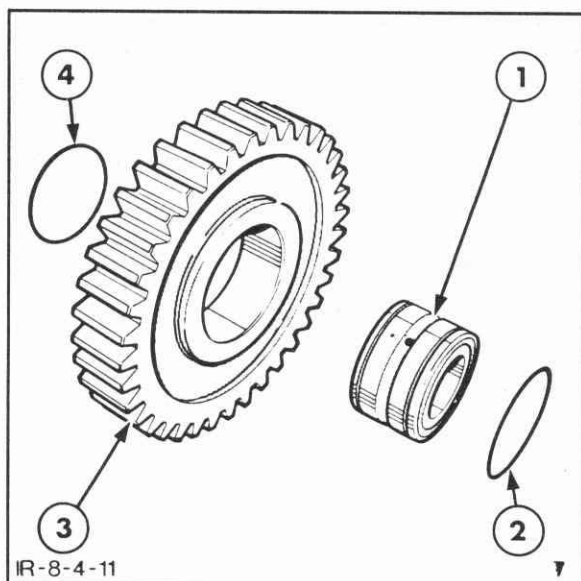

Figure 7-149
17. Remove the retaining ring from the idler gear and bearing assembly and separate the components, Figure 7-149.